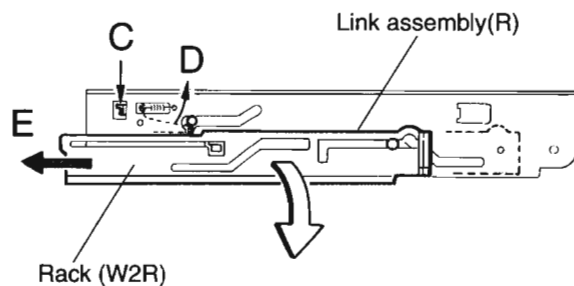

Fig.26
3. Push part C in the direction of the arrow to unlock part D. Move and remove Rack (W2R) in the direction of arrow E. Detach the Link assembly (R)(see Fig.26).